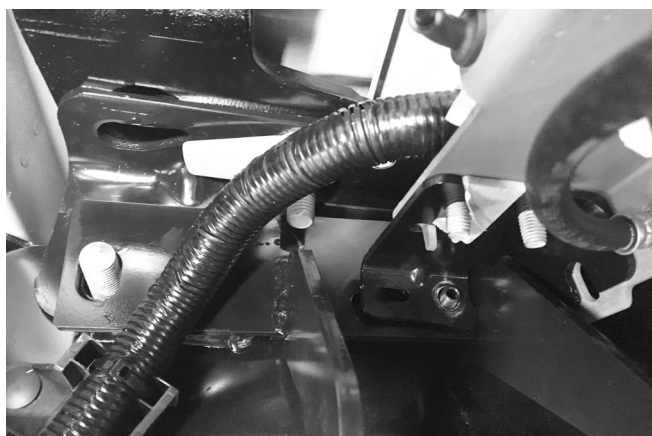
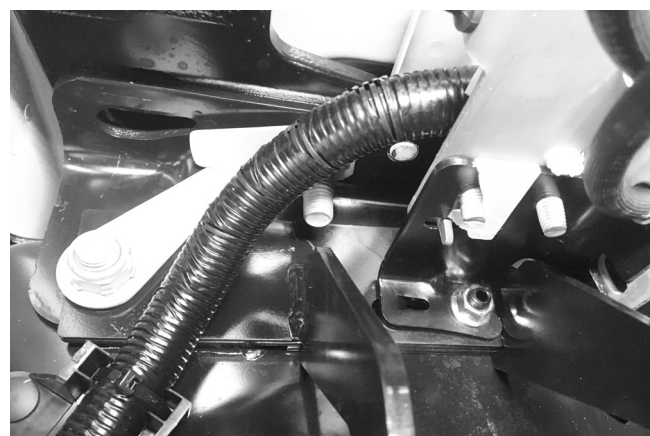

Fig. 23
Fig. 24
4. Set the upper brace (G) in place over the 50mm set screw (Y) and against the frame. Ensure the hole in the rear of the brace lines up with the fifth wheel bracket hole in the frame. Set the stock brake line bracket, previously removed, over the 50mm set screw and on top of the brace. Thread the M10 serrated flange lock nut (CC) onto the set screw. Reinstall the factory fifth wheel hardware previously removed (if equipped) or use the supplied 5/8" (Z, AA, BB) hardware through the frame and brace (Fig. 23 & Fig. 24). Leave loose at this time.